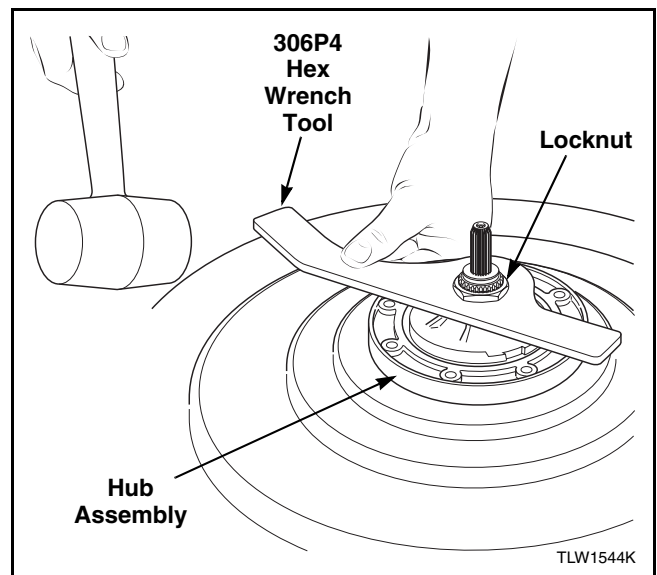

Figure 60
- p. Place hub assembly and locknut over transmission shaft. Refer to *Figure 60*.
- q. Tighten locknut using 306P4 Hex Wrench Tool. After hand tightening, tap tool with hammer to force the upper half of the inner tub seal down until it bottoms against lower half of seal. Refer to *Figure 60*.